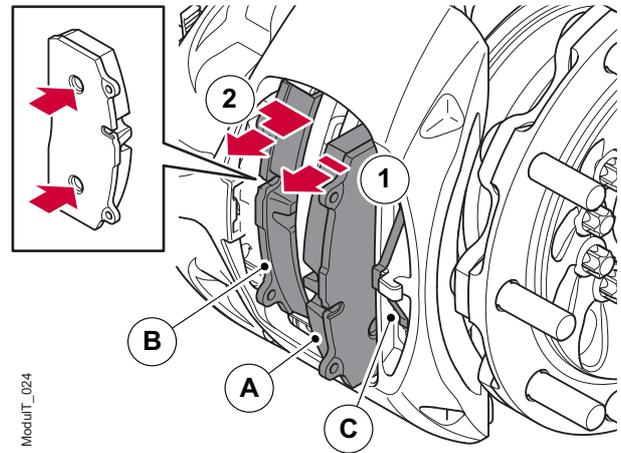

Figure 33. Removal of brake pads
- Remove the brake pads; always remove the outer brake pad (A) first, followed by the inner brake pad (B). See figure 33.